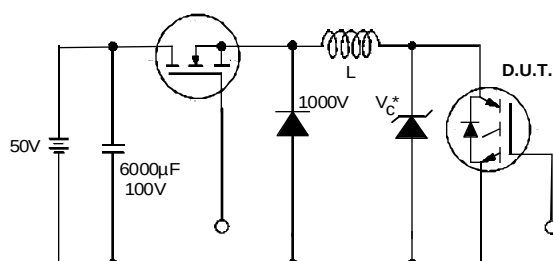

Fig. 19- Clamped Inductive Load Test Circuit
② V_{CC}=80%(V_{CES}), V_{GE}=20V, L=10μH, R_G= 23Ω, (See fig. 19)
③ Pulse width ≤ 80μs; duty factor ≤ 0.1%.
④ Pulse width 5.0μs, single shot.